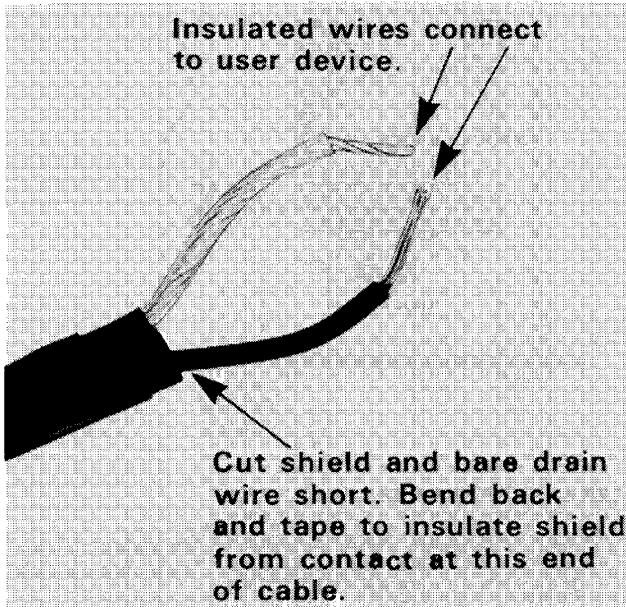

Figure 3.41 – Shield Protection at User Device
- **Step No. 7** – At the user device, cut the shield and bare stranded wire of the cable short. Tape the shield back to prevent contact with any other wiring or with any terminals. (Refer to Figure 3.41.)